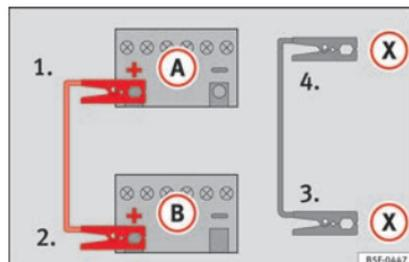

Fig. 70 Diagram of connections for vehicles with Start-Stop system.
- For vehicles with Start-Stop system: connect one end of the *black* jump lead (X) to a suitable ground terminal, to a solid piece of metal in the engine block, or to the engine block itself »» Fig. 70.
- Connect the other end of the *black* jump lead (X) to a solid metal component bolted to the engine block or to the engine block itself of the vehicle with the flat battery. Do not connect it to a point near the battery (A).